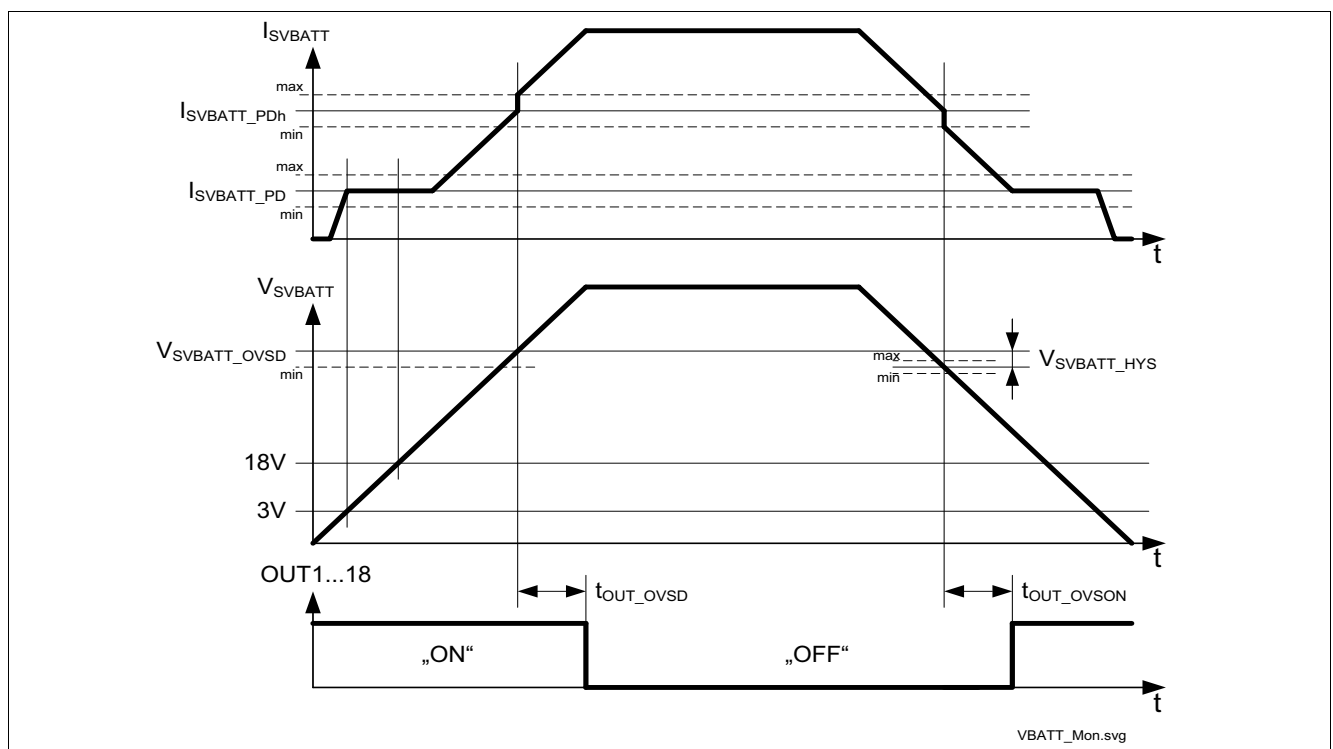

Figure 7 Battery Voltage Monitoring
2) $V_{SVBATT} = V_{SVBATT_OVSD}$ during voltage increase, respectively $V_{SVBATT} = V_{SVBATT_OVSD} - V_{SVBATT_HYS}$ during voltage decrease. See Figure 7.